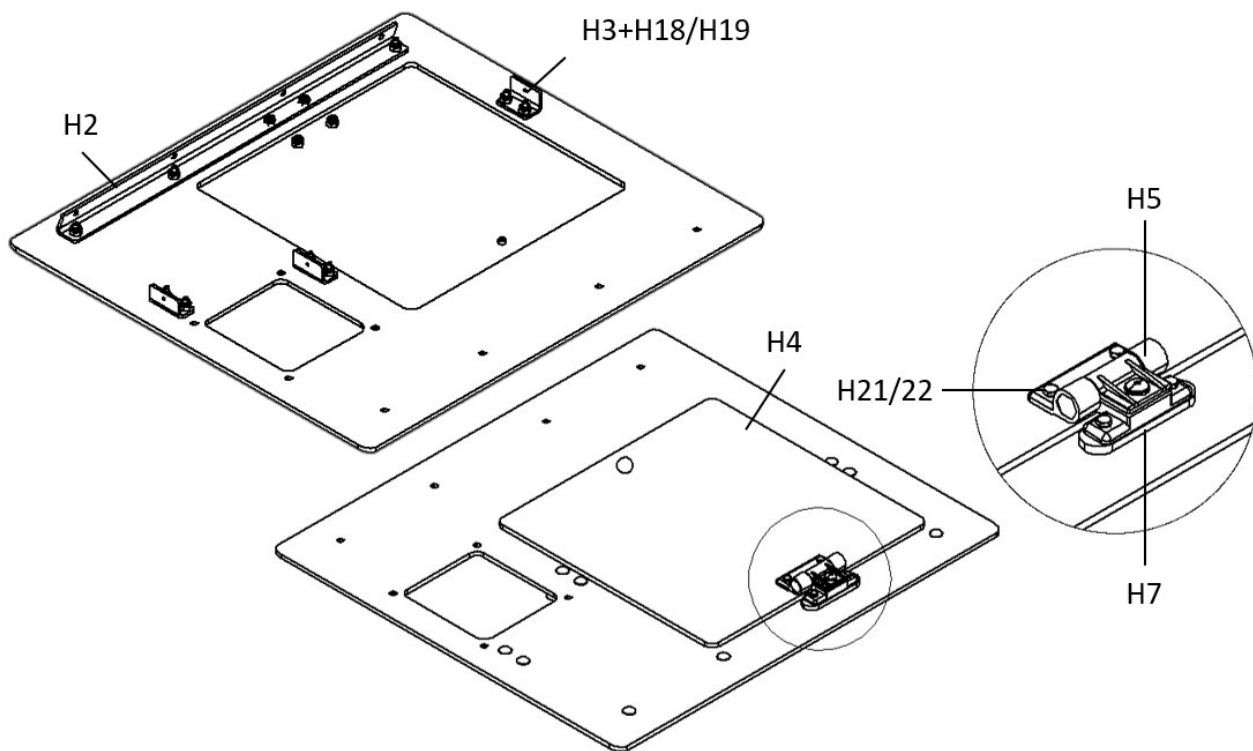

Figure 11: Overview of the Top Plate Assembly
1. Orientate the H1 Top Plate as illustrated in figure 11.
2. Position the H2 and the three H3 Connectors onto the plate and fasten them with 8x H18 bolts and H19 nuts. Make sure their orientation resembles figure 11.
5. Flip the Top Plate and position the H7 Riser between the Top Plate and the Hinge as illustrated in detailed view of figure 11.